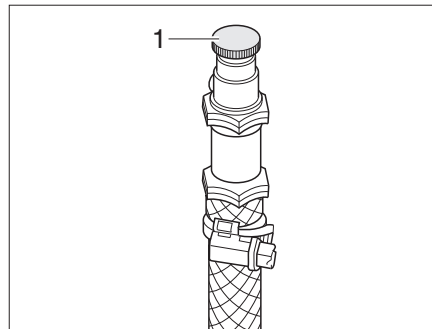

Fig. 394 Bleeding valve of hot-water heater
- Open bleeding valve (Fig. 394,1) and leave open until no more air escapes.